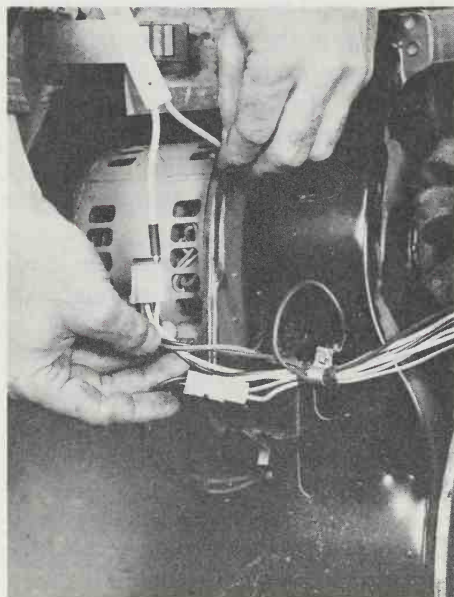

Figure 13. The control panel on a washing machine can be removed and a testlight used to find a faulty timer or switch.
3. Remove the panel which reveals the timer (Figure 13). Connect a 115-volt test light to the terminals determined by counting clicks and turn on the machine. If the test light fails to glow, the timer is faulty at this one